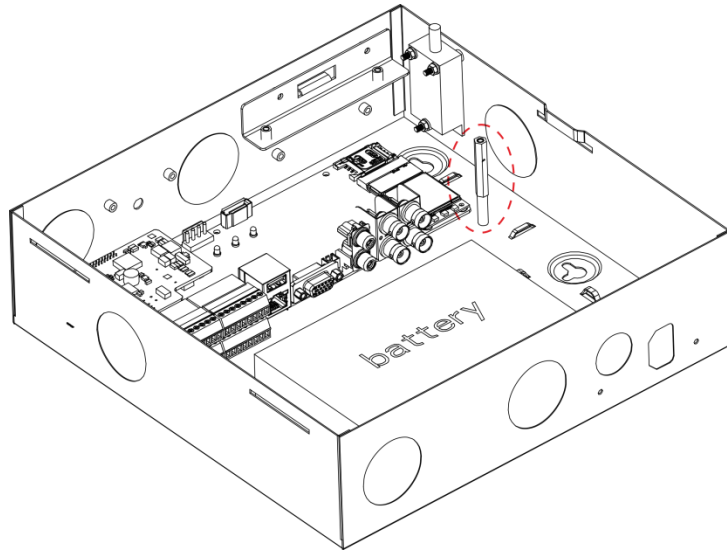

Figure 2-11
Step 1. Inside the controller, insert 18.8MM screw, see Figure 2-11.